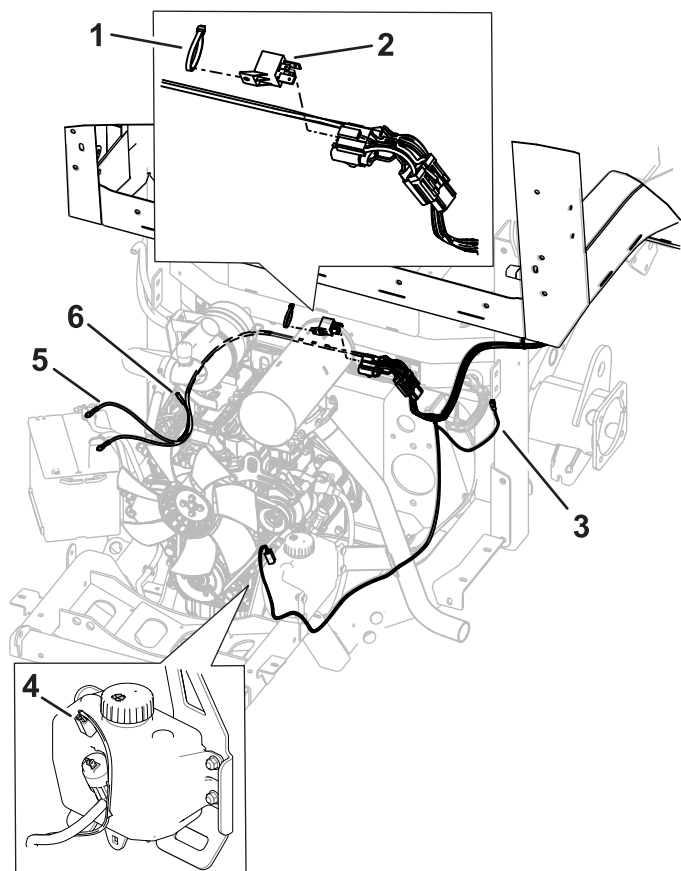

Figure 29
1. Route the wire harness along the machine frame (Figure 29).
6. Install the connector to the fluid tank (Figure 29).
7. Plug the connector shown in Figure 29 to the main harness of the machine.